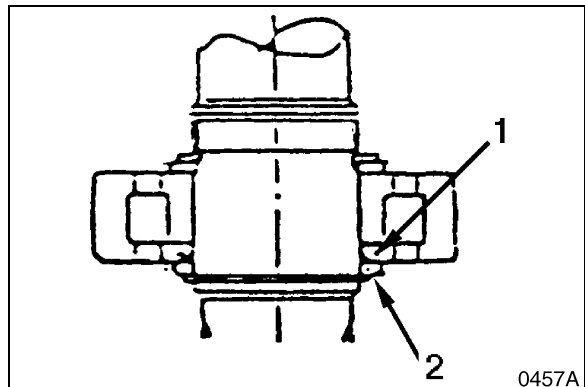

Figure 31
Make sure that bearing raceways (collars) are facing right direction. The drawing shows one side of the bearing collar (1, Figure 31), marked "R," which should be assembled next to spacer (2) on lower end of drive shaft.